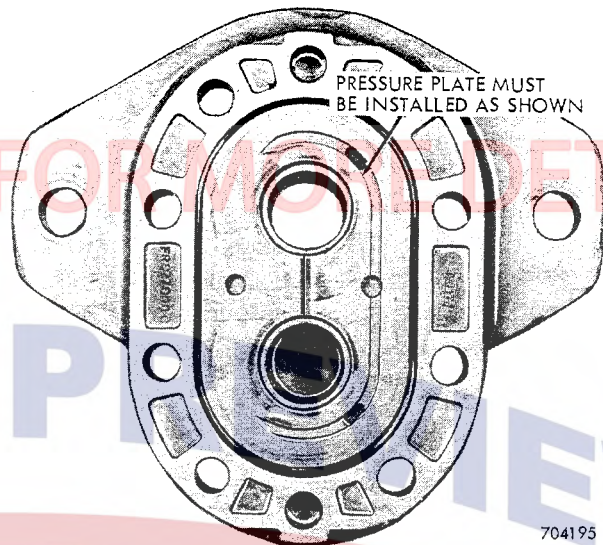

Figure 30 - Pressure Plate Installed
3. Coat the smooth side of the pressure plate with a light, clean grease and position on end cover as shown in Figure 30. Then coat the O-ring with grease and position in groove formed by the pressure plate and end cover.